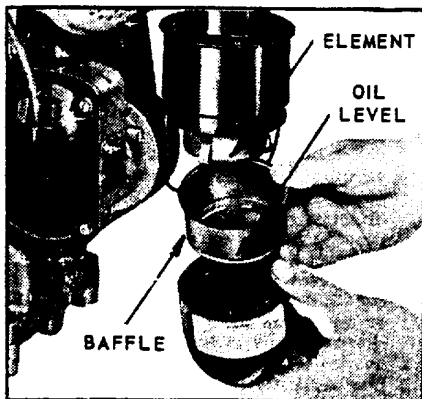

Fig. 8, OIL BATH AIR CLEANER
**AIR CLEANER - OIL BATH TYPE, Fig. 8**